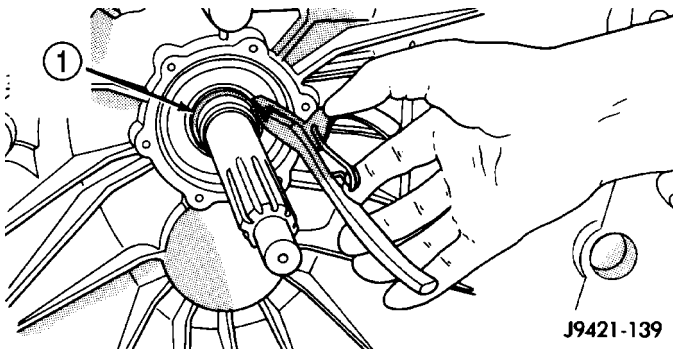

Fig. 123 SHAFT SNAP RING - TYPICAL
- (18) Install input shaft snap ring (Fig. 123).